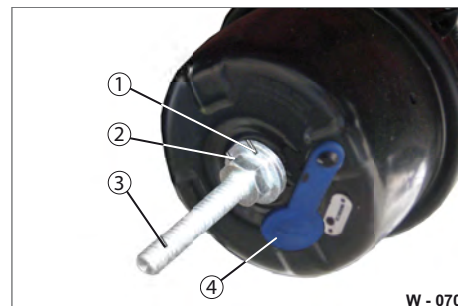

Fig. 55 Releasing spring tension
- ▶ Slide on the washer (Fig. 55/1).
- ▶ Screw the hexagon nut (Fig. 55/2) onto the release bolt (Fig. 55/3).
- ▶ Unscrew the hexagon nut (Fig. 55/2).
- ▶ Pull off the washer (Fig. 55/1).
- ▶ Turn the release bolt (Fig. 55/3) through 90° and remove it.